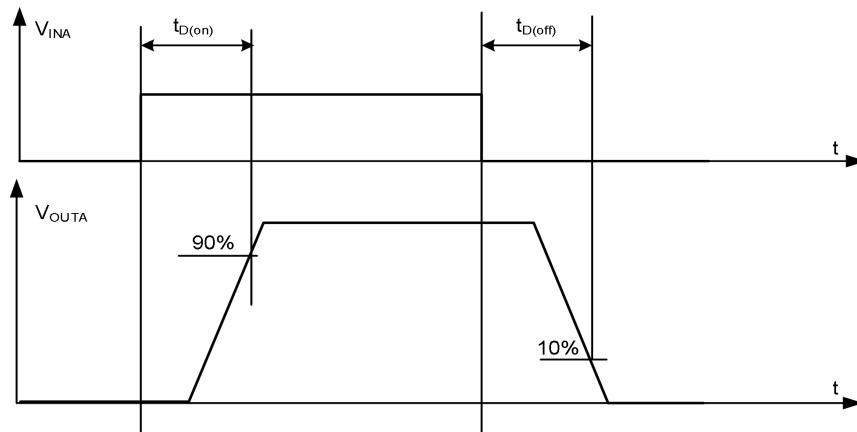

Figure 4. Definition of the high-side switching times
- (1) Parameter guaranteed by design and characterization; not subjected to production test.
- (2) Specifications subject to change without notice.
- (3) See Figure 4.